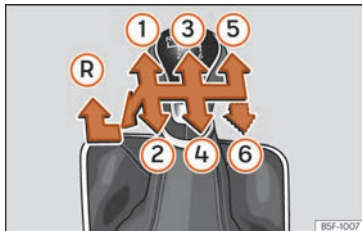

Fig. 139 Gear shift pattern of a 5 or 6-speed manual gearbox.
The position of the gears is indicated on the gearbox lever »» Fig. 139.
- With the gearbox lever in neutral, push it downwards, move it to the left as far as it will go and then forwards to select reverse »» Fig. 139 .